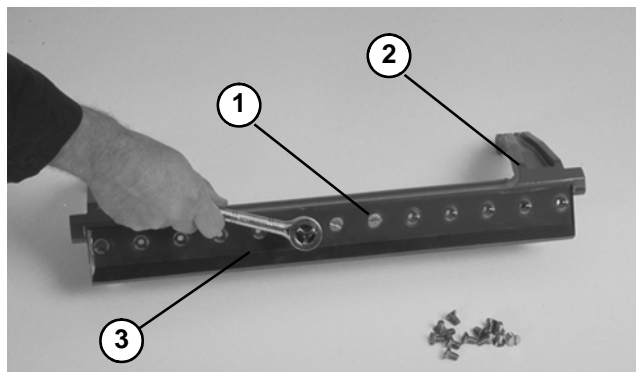

Figure 32
2. Remove screws from bedbar using a socket wrench and bedknife screw tool. Discard screws. Remove bedknife from the bedbar (Fig. 32).